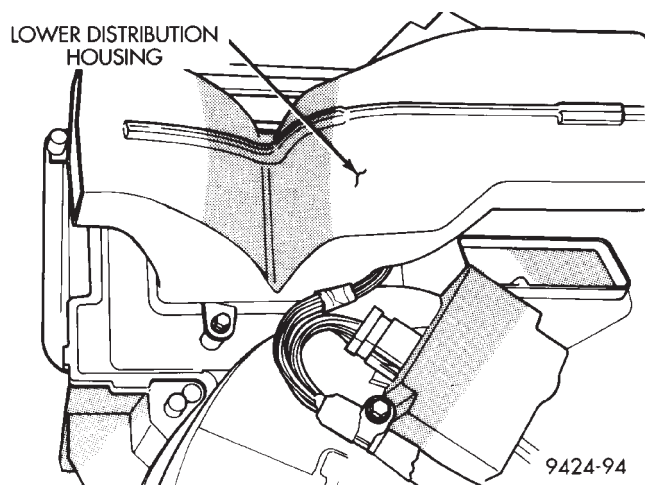

**Fig. 96 Lower Distribution Housing**
(24) Install lower distribution housing (Fig. 96).